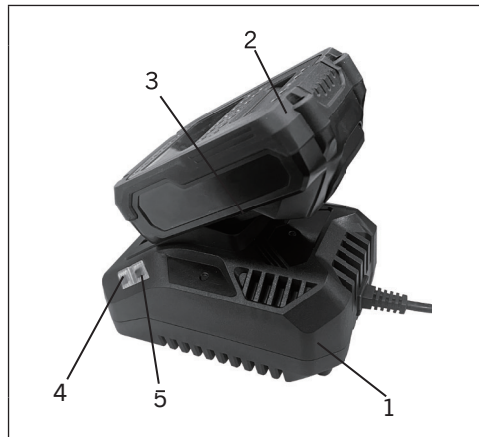

FIG. 1
NOTE: Make sure the grooves (3) in the sides of the battery slide over the matching tabs on the charger (Fig.1) until the battery latch "clicks" into place.
a) When the charger is plugged into the wall receptacle and NO battery is on the charger, the green indicator light (4) will turn ON indicating the charger is "live".
b) When a discharged battery is installed on the charger, the green indicator light will turn OFF and the red indicator light (5) will FLASH. The flashing red indicator light indicates the battery is being charged.